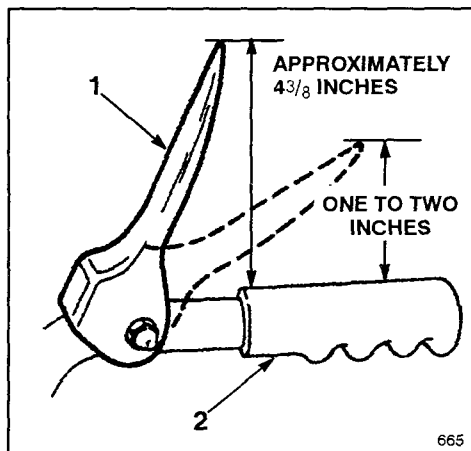

Figure 7
6. Slowly pull machine backward while slowly depressing traction control lever toward handle. Adjustment is correct when wheels stop turning and the distance between the top of the handgrip and the bottom of the traction control lever is one to two inches (Fig. 7). Readjust the two flange nuts, if necessary, to obtain this dimension and then tighten the two flange nuts securely.